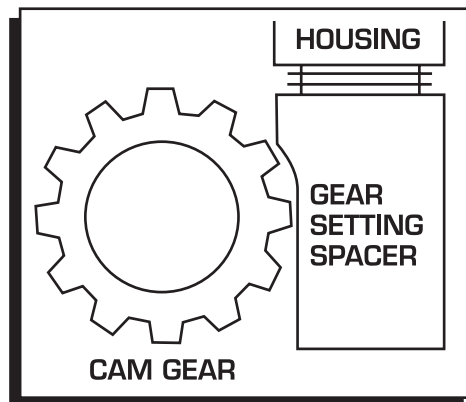

Figure 9 Adjusting the Gear Setting.
1. Install the Gear-Setting spacer onto the shaft and use the set screw to hold it in place (Figure 9). Also install the distributor gasket.